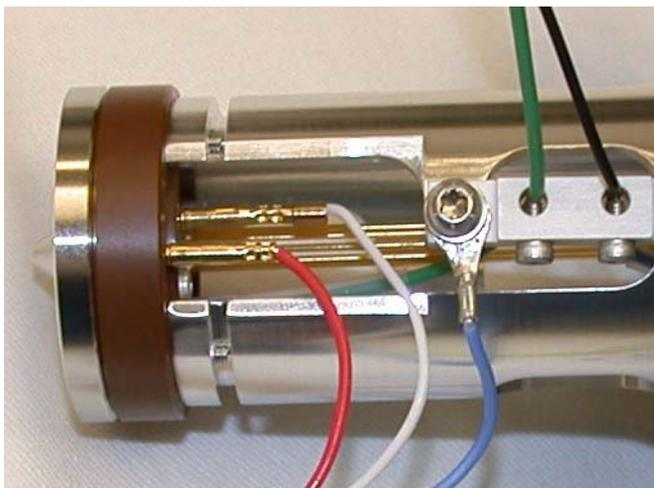

Figure 57 Lens 1 and Lens 2 wires
- 9 Disconnect wiring harness and connections (Figure 57). The lens 2 red wire and lens 1 white wire. The yellow wire can remain attached to skimmer spacer (Figure 58). Leave the ion optics in the skimmer spacer and use it as a stand to remove lens 2, spacer insulator, and lens 1. Be careful not to damage the octopole rods.